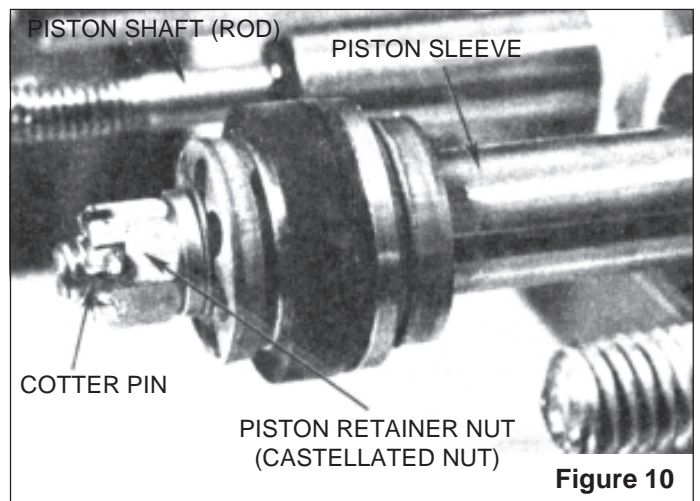

Figure 10
- Remove cotter pin and piston retainer nut (castellated nut) from the piston shaft (*Figure 10*).
- d. Using No. 400 grit sandpaper or emery cloth – wet with oil and lightly sand or clean piston rod sleeves (Figure 10).